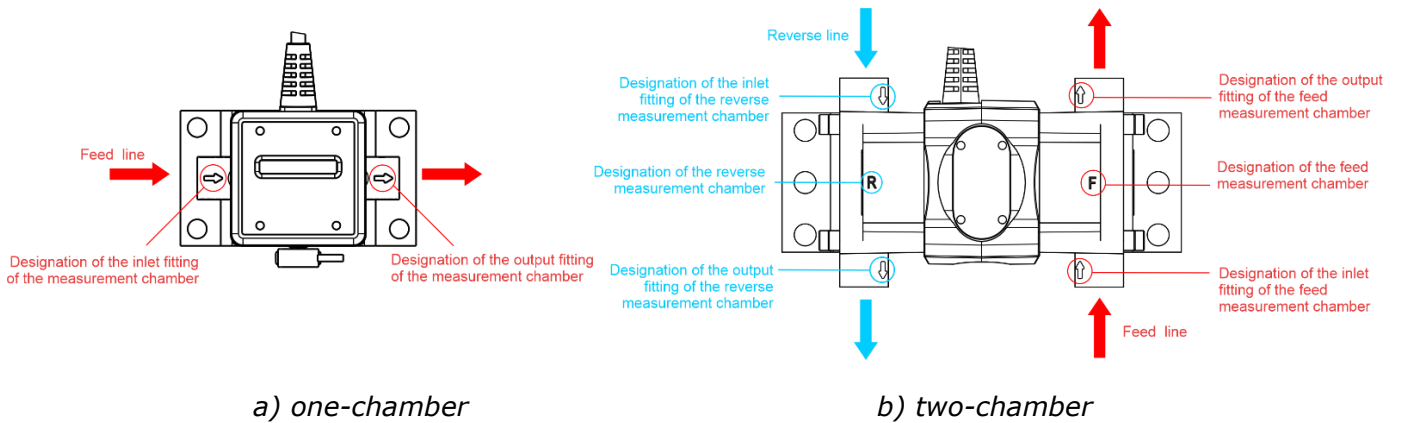

Figure 26 — Symbols on DFM body for proper installation into fuel lines
- 5) Make sure you install fuel flow meter into fuel lines **strictly according to symbols on DFM body** (see figure 26).
Fuel circulation in the fuel system doesn't change with differential measurement. Feed-flow chamber (marked with the letter **F** on the flow meter body, see figure 26 b) of differential **DFM D** is to be installed in the gap of feed fuel line of the engine. Return-flow chamber (marked with the letter **R** on the flow meter body, see figure 26 b) is to be installed in the gap of the reverse line. Fuel consumption is calculated as a difference of measured values of fuel flows in straight-flow and return-flow chambers.